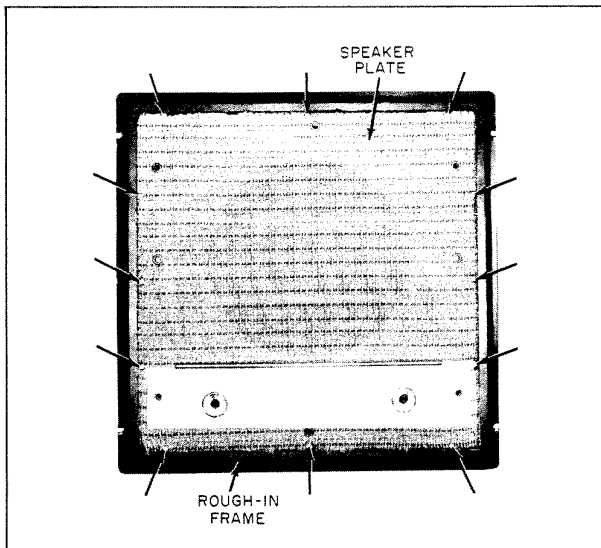

Fig. 13. Speaker plate and rough-in frame assembly of outside installed Model 200 remote speaker station.
3. Mount the speaker plate to the rough-in frame with the twelve screws provided as shown by arrows in Fig. 13. *All screws must be used to prevent speaker rattle.*